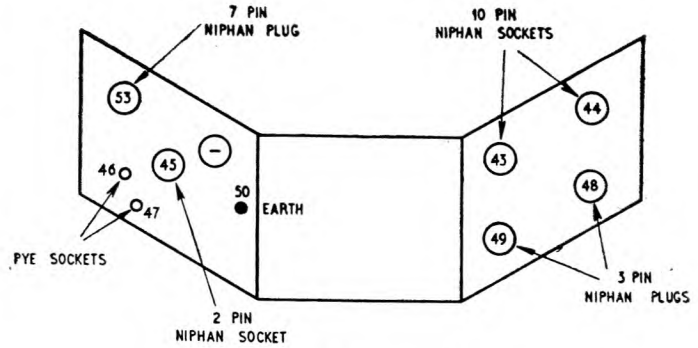
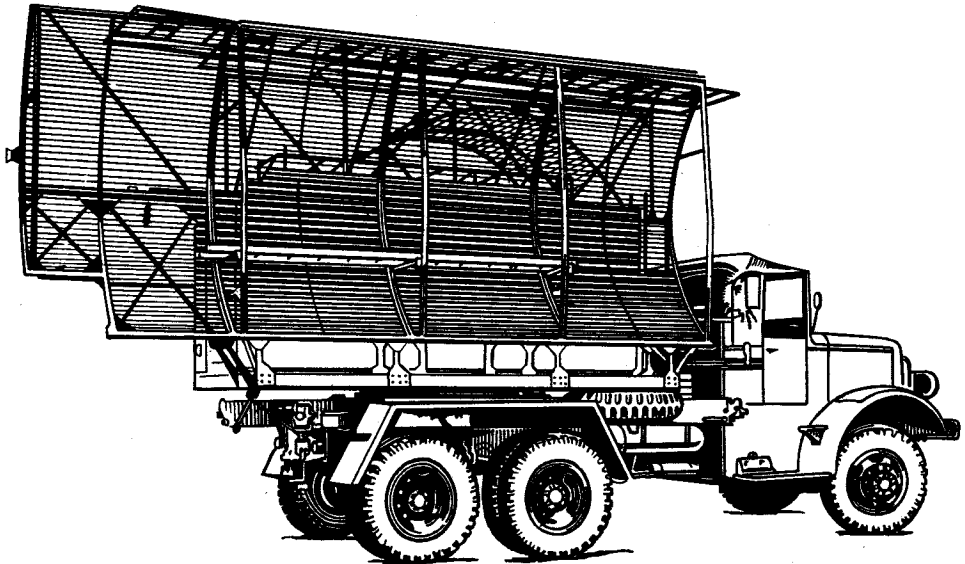

Fig. 4. R.V.462C : termination box
Fig. 13. R.V.462C in transit condition (right-hand side)
(1) Three IFF connectors (Numbered 53, 80 and 81).
(2) The connector for the refrigerating plant (No. 59) which is supplied with radio vehicle Type 181B.
(3) The cables for linking the power vehicles which are supplied with them.
(4) The telephone cables.
(5) Cable No. 70 which is supplied with radio vehicle Type 467.
6. There may not be identification numbers on the plugs and sockets of the aerial vehicle termination boxes but the correct connections can be determined by reference to fig. 4 and 5. In the case of the operations vehicle termination box the plugs and sockets are numbered, but not in agreement with the cable numbers ; the correct connections can be made by referring to fig. 13 which is a cabling diagram for the complete installation. This diagram should be followed carefully for it is very easy to plug some of the cables into wrong positions.